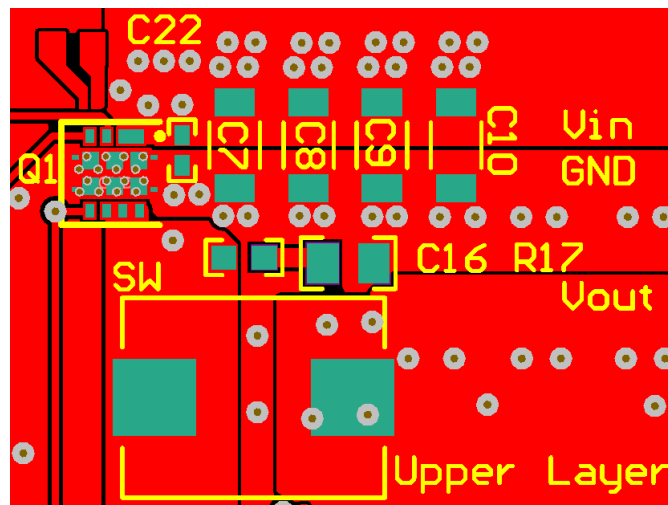
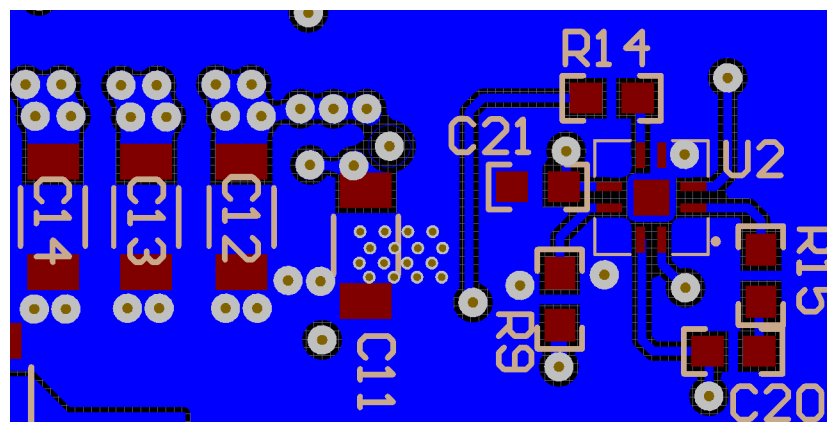

图 33. Recommended PCB Layout (Top Down View)
图 34. Recommended PCB Layout (Bottom View)
- The placement of the input capacitors relative to the power block's VIN and PGND pins should have the highest priority during the component placement routine. It is critical to minimize these node lengths. As such, ceramic input capacitors need to be placed as close as possible to the VIN and PGND pins (see Figure 33). It is recommended that one 3.3-nF (or similar), 0402, 50-V ceramic capacitor be placed on the top side of the board as close as possible to VIN and PGND pins. In addition, a minimum of 40 μF of bulk ceramic capacitance should be placed as close as possible to the power block in a design. For high-density design, some of these ceramic capacitors can be placed on the bottom layer of PCB with appropriate number of vias interconnecting both layers.
- The switching node of the output inductor should be placed relatively close to the power block VSW pins. Minimizing the node length between these two components will reduce the PCB conduction losses and actually reduce the switching noise level. In the event the switch node waveform exhibits ringing that reaches undesirable levels, the use of a boost resistor or RC snubber can be an effective way to easily reduce the peak ring level. The recommended boost resistor value will range between 1.0 Ω to 4.7 Ω depending on the output characteristics of driver IC used in conjunction with the power block. The RC snubber values can range from 0.5 Ω to 2.2 Ω for the R and 330 pF to 2200 pF for the C. Please refer to Snubber Circuits: Theory, Design and Application (SLUP100) for more details on how to properly tune the RC snubber values. The RC snubber should be placed as close as possible to the VSW node and PGND (see Figure 33 and Figure 34).
(1) Keong W. Kam, David Pommerenke, "EMI Analysis Methods for Synchronous Buck Converter EMI Root Cause Analysis", University of Missouri – Rolla
- Use the smallest drill size allowed in your design. The examples in 图 33 and 图 34 use vias with a 10-mil drill hole and a 16-mil capture pad.